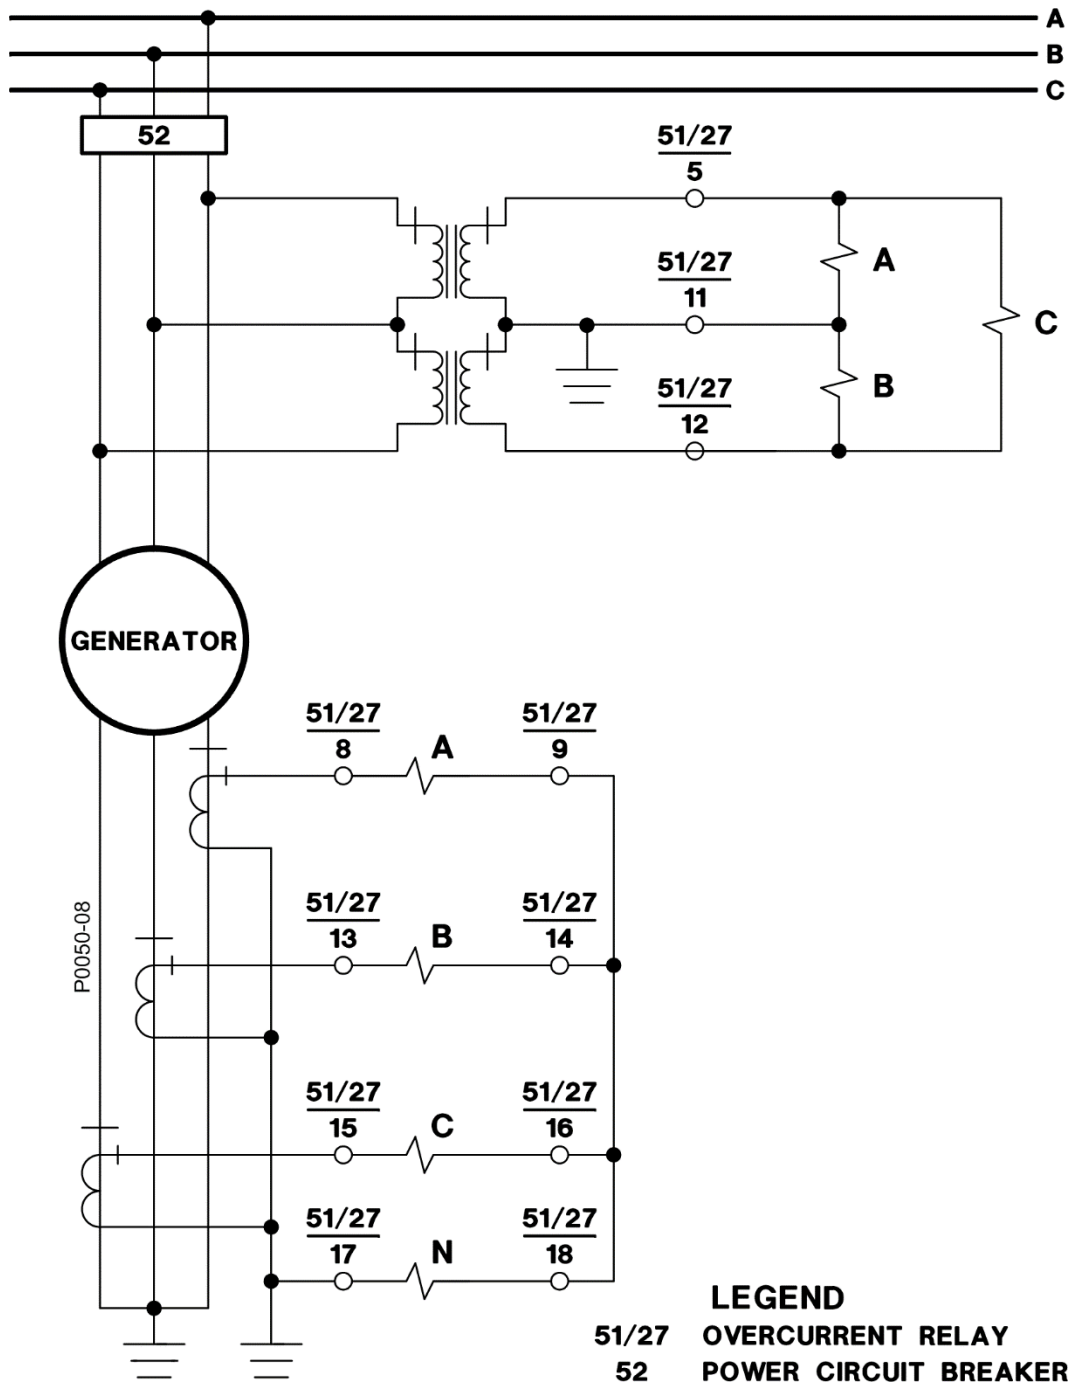

Figure 4-18. Typical Sensing External Connections, Sensing Input Type D
- Figure 4-18: Typical Sensing External Connections, Sensing Input Type D